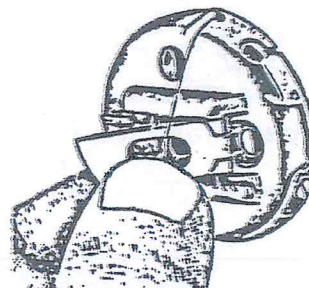

Figure 10
5. Prepare to attach the case back on the hook as shown on Fig. 10, with the thread slack out of the way of the bobbin case.
To remove the bobbin case, lift up on the case latch as shown in Fig. 10 & 11. When re-inserting the case, it is not necessary to lift the latch. Just push the case back on to the hook with the thread slack out of the way.
When adjusting the tension on the bobbin case, make slight adjustments with a screwdriver- 1/8 turn in either direction is generally enough to correct adjustment (Fig. 10).